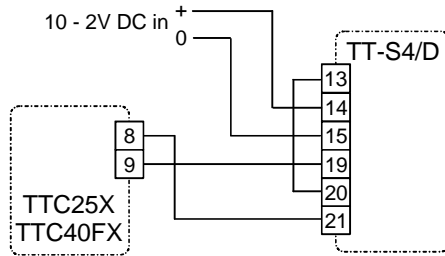

Fig 3
- Fig 3 Wiring of TTC40FX/TTC25X and 10 - 2V DC control signal from an external source.